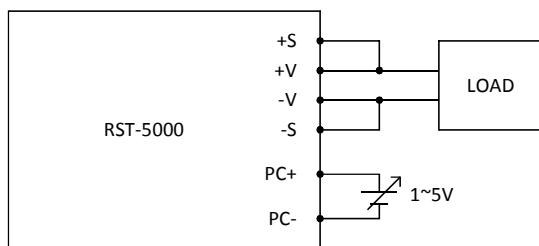

Fig 4.1
- (b) Connect an external voltage source between PC+ and PC- on CN313 or CN314 as shown in Fig 4.1.